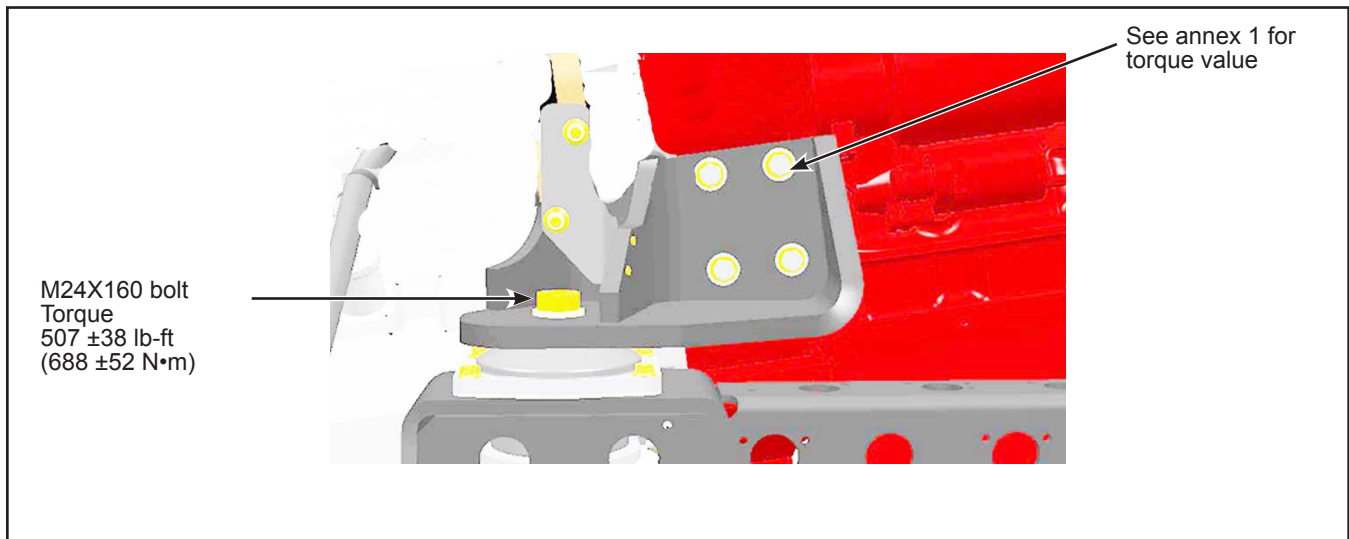

Figure 9 - Affixing Engine Support
- 1.22. Install the retained M24X160 bolt and nut. Tighten to the torque indicated in Figure 9.